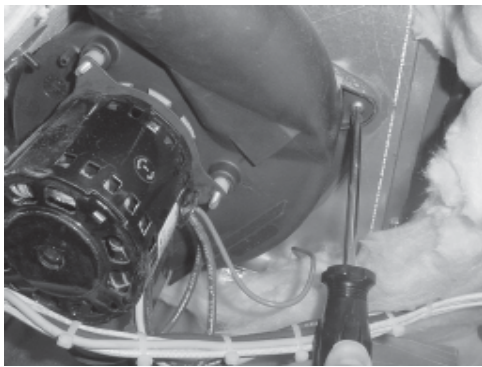

Figure 2-3
4. Using a Phillips head screwdriver, remove the mounting screws (Figure 2-3).